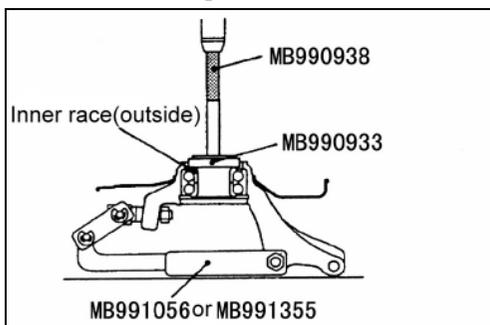

Fig.12-14
c. Install the inner race(outside) that was removed from the hub to the wheel bearing, and then use the special tool to remove the wheel bearing.(see Fig.12-14)。